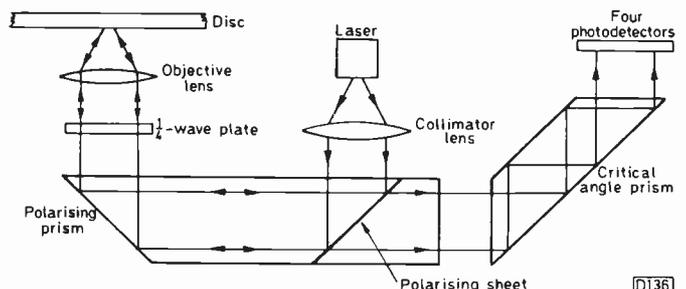

Fig. 5: Arrangement of the single-beam laser assembly used in some Sony CD players.
**Fig. 5:** Waveforms present at the dynamic convergence coils, (a) for vertical axis correction (field rate parabola), (b) for horizontal axis correction (line rate sinewave).
Dynamic convergence corrects errors at the edges of the screen. With modern flat, square screens corner convergence is particularly difficult. Dynamic convergence correction coils are mounted on the yoke, behind the deflection coils. By altering the amplitude and phase of the waveforms fed to these coils (see Fig. 5) the beam deflection angles in these difficult areas can be altered. Vertical and horizontal correction waveforms are fed to the coils.
Fig. 5 shows the arrangement of the Sony single-beam assembly. If you compare this with the arrangement shown in Fig. 1 you will see that they are in many respects the same. The main differences consist of the omission of the diffraction grating, the changed position of the collimator lens and the inclusion of the critical angle prism.